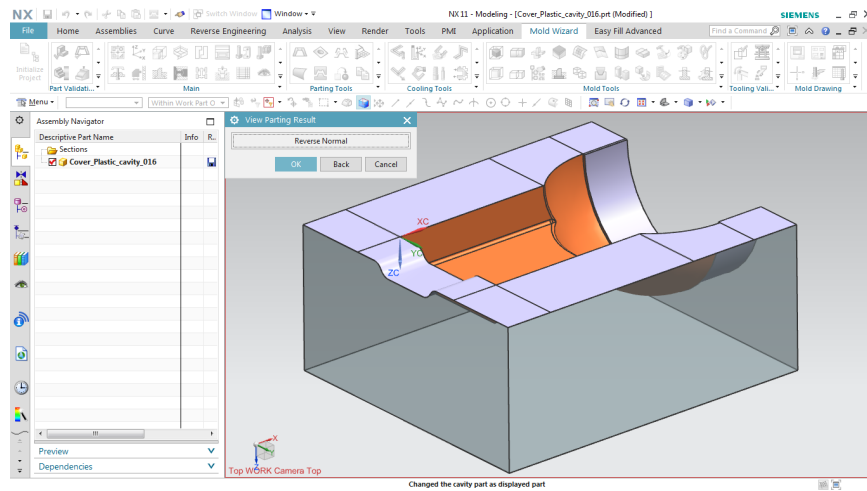
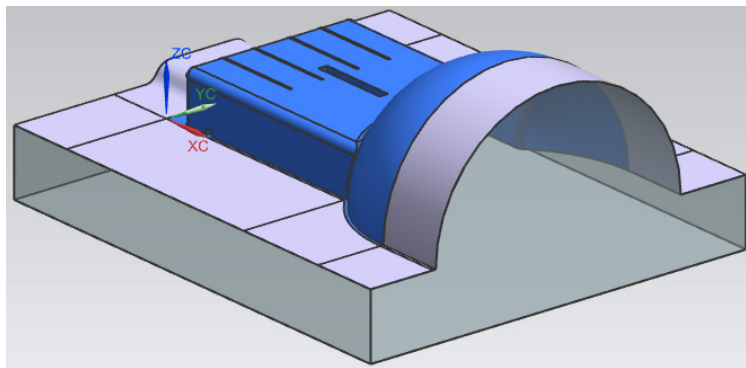

Figure 16-110 The View Parting Result dialog box and cavity of the model on screen
Figure 16-111 The core of the model
2. Choose the **Apply** button; the **New Iray + Ray Traced Studio Rendering** window is displayed. Choose the **OK** button; the **View Parting Result** dialog box and the cavity of the model get displayed, refer to Figure 16-110. Choose the **Reverse Direction** button to create other half of the cavity. Choose the **OK** button to close the dialog box; a green tick mark is displayed before the **Cavity region** in the **Select Sheets** rollout of the dialog box. Now, select **Core region** in the **Select Sheets** rollout of the dialog box and repeat the same procedure as for the cavity; the core is displayed, refer to Figure 16-111.